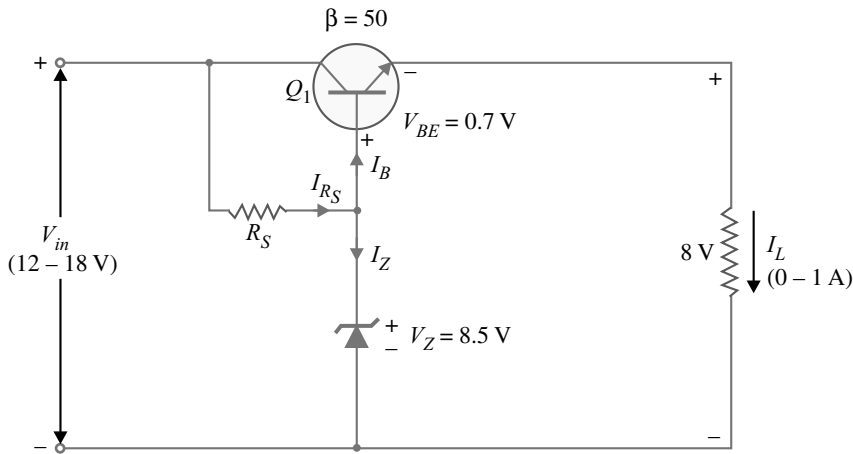

Fig. 15.18
**Example 15.19.** In a series transistor voltage regulator (See Fig. 15.18), the load current varies from 0 – 1 A and the unregulated d.c. input varies from 12 – 18 V. The 8.5 V zener diode requires atleast 1 mA of current to stay in its regulating region (i.e.  $I_{Z(\min)} = 1 \text{ mA}$ ).